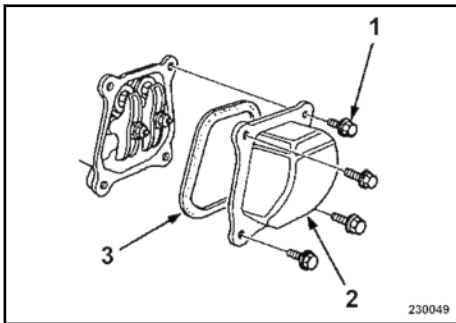

Fig. 51
Loosen the screws (1) ↗ Fig. 51 and take off the valve cover (2) with gasket (3).